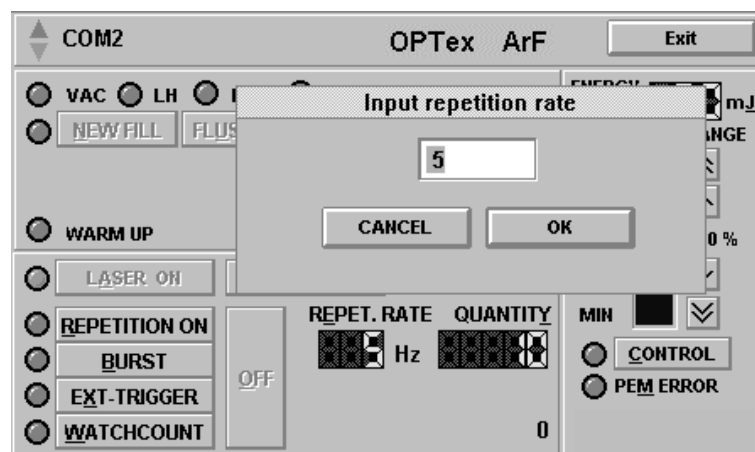

Figure 32: Setting the repetition rate
1. Click the display "REPET. RATE" (see D in Figure 24 on page 84). A new window appears, showing the current value. The value is marked and the cursor is positioned behind the displayed value (see Figure 32).